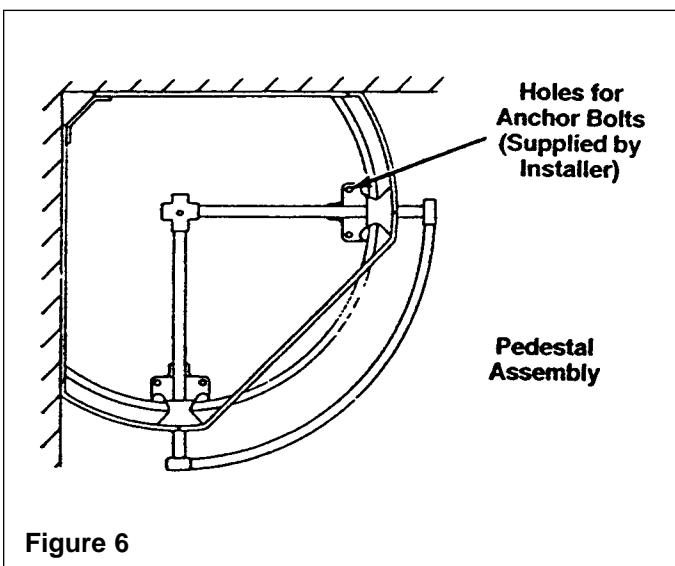

Figure 6
2. Anchor the pedestal assembly to the floor with suitable anchors (supplied by installer) (Figure 6).